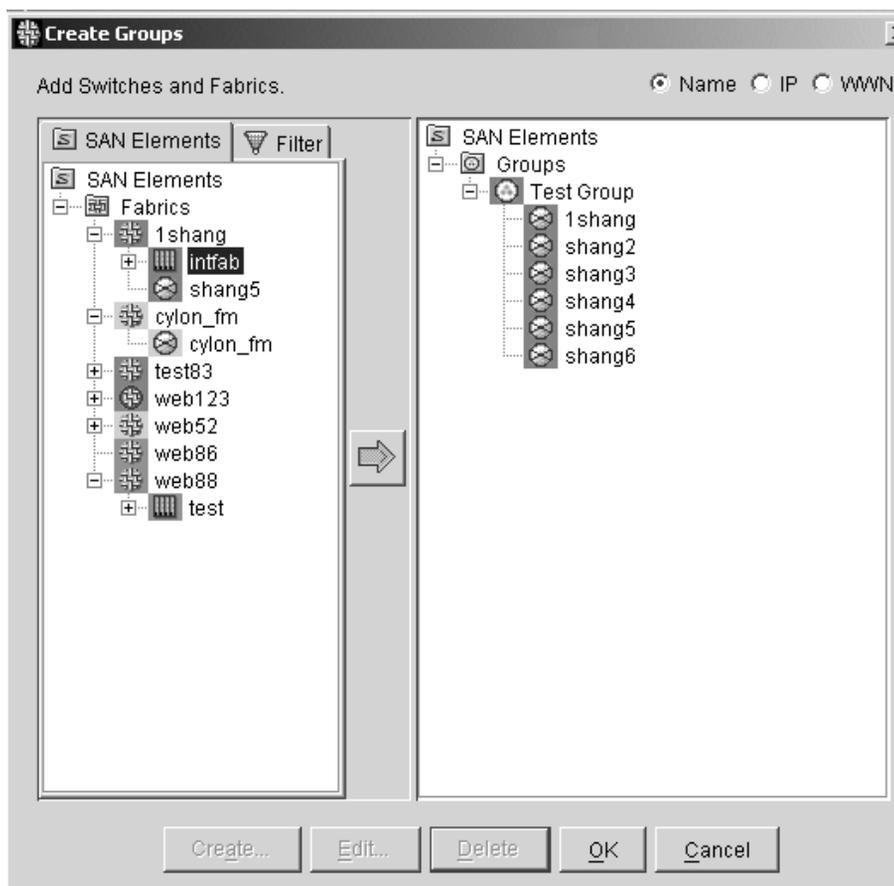

Figure 9: Create Groups dialog box
1. Choose **File > Group > Create**. The **Create Groups** dialog box displays, as shown in Figure 9.